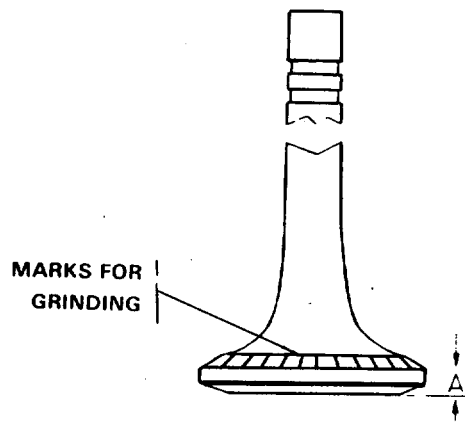

FIGURE 4-9. Rim Measurements and Grinding Marks.
- (1) Visually inspect the valves as follows:
- (b) Check the valve head for damage. Use the valve head checking tool to measure the thickness of the valve head rim (A), FIGURE 4-9. The rim must measure a minimum of 0.105 inch (2.67 mm).
- (1) Grind the face of the valve. Make sure the coolant will spray on the valve head, not on the grinding wheel.
- (n) Check the thickness of the valve head rim, FIGURE 4-9 to be sure that the rim thickness is not less than 0.124 inch (3.15 mm). Do not repair any valve with cracks or other damage or any valve whose rim thickness is less than 0.124 inch (3.15 mm).
- (p) Put marks on the valve face as shown in FIGURE 4-9. Use a liquid metal marker.